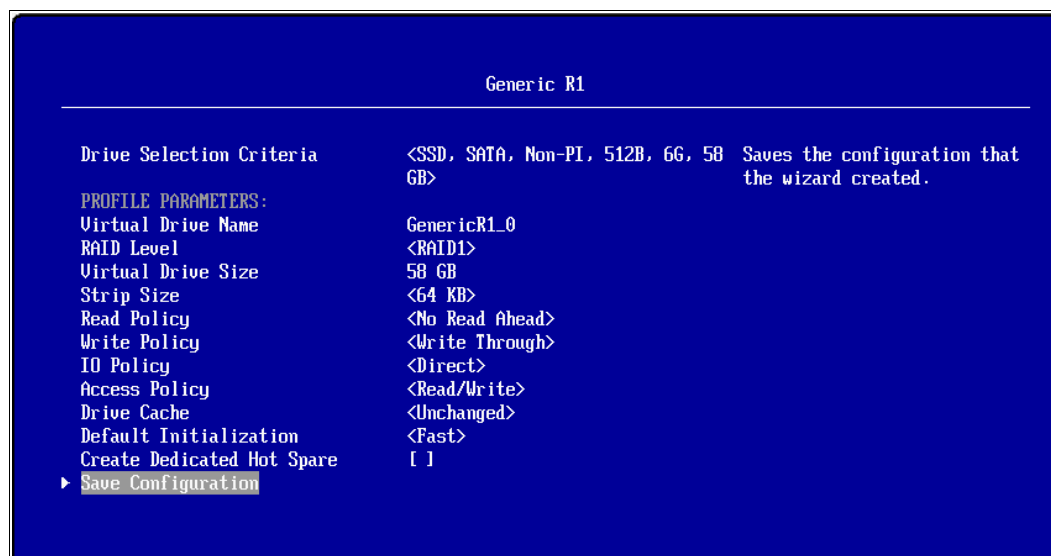

Figure 5-26 Generic RAID 1 array panel
11. From the Generic R1 panel, select the **Save Configuration** option to confirm your intentions to create your RAID array (Figure 5-26).